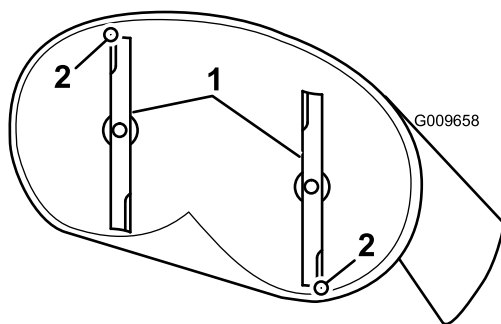
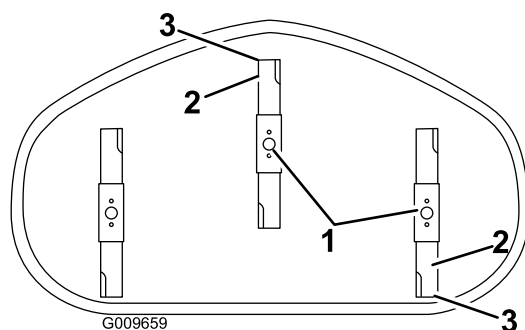

Figure 61
Figure 62
- Carefully rotate the blades so they are facing front to rear (Figure 61 and Figure 62).
5. Measure from the tip of the front blade to the flat surface, and the tip of the rear blade to the flat surface (Figure 61 and Figure 62).
- D. After adjustment, check the front-to-rear slope again, continue adjusting the nut until the front blade tip is 1.6 to 7.9 mm (1/16 to 5/16 inch) lower than the rear blade tip (Figure 61 and Figure 62).
- A. Loosen the adjustment nut on the left adjusting rod (Figure 62).